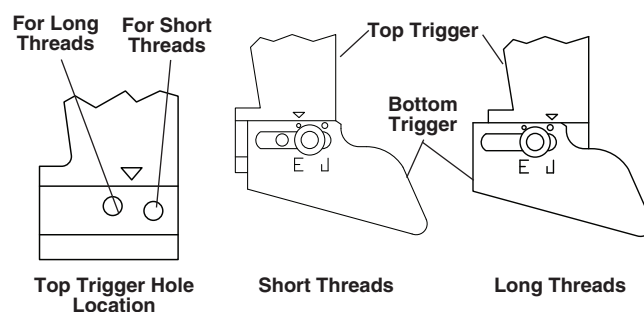

Figure 18 – Adjusting Thread Length
2. For short threads, shift the bottom trigger towards the machine spindle. For long threads, shift it away from the spindle (see Figure 18 – factory settings shown). Long threads are typically preferred in Far East and short threads in Europe. Set as desired.